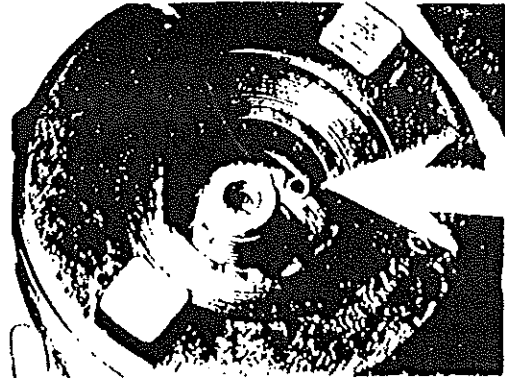

Figure 401. Spring Engaged with Cam
- A. Using heavy gloves or a cloth, grasp coupling body (9) firmly to prevent the internal spring from unwinding suddenly. Pull outward on coupling body only enough to release it from cam assembly (11). Keep coupling body close against cam and allow body to run as spring (10) unwinds. After one or two turns, spring from coils will wedge against projections on body, restraining spring from further unwinding.
- B. Look into hole in body and note location of inner eye of spring where it engages with mating recess in cam hub. See Figure 401. Insert a screwdriver under spring end and pry spring eye out of recess. Remove body and spring together. Uncoil spring from body and pry spring eye from body recess to disengage spring. Discard spring (10).